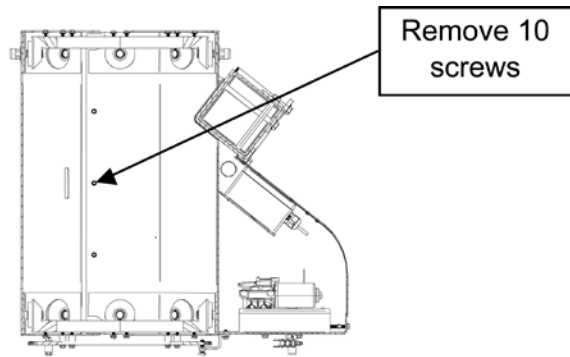

Figure 1
1. Disassemble the two shell assemblies by removing the 10 screws/washers that are located on both sides of the assemblies. Save hardware for later use. See Figure 1.